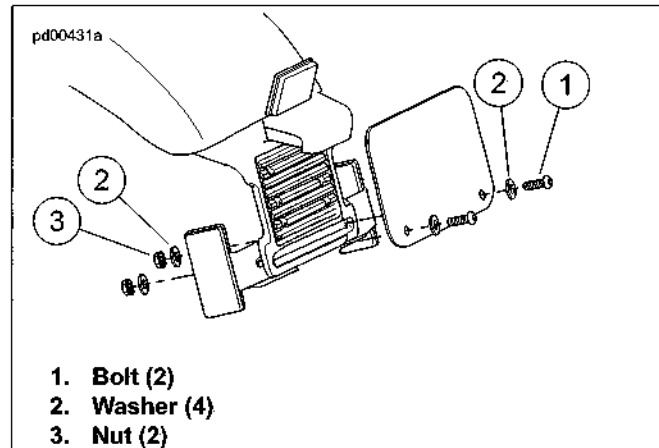

Figure 2-170. License Plate Bracket: XL 883N (India) (shown)
1. See Figure 2-170. Assemble screws (1), washers (1), license plate and nuts (3) to the license plate bracket.